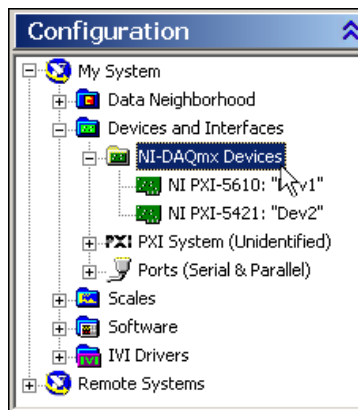

Figure 1-10. Both Modules Appear in MAX
3. Expand the **NI-DAQmx Devices** folder. You will see a list of installed devices that includes the NI 5610 and NI 5421 modules, as shown in Figure 1-10 (your default device names may vary).